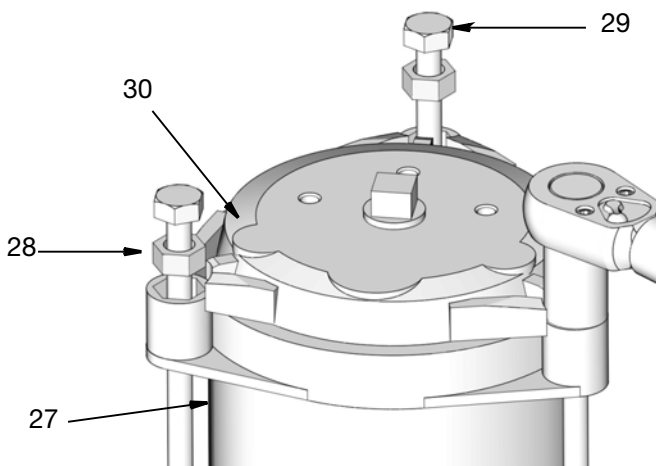

FIG. 13
9. Cover (30) is spring loaded. Use your hand to apply pressure on the cover. At the same time, use a wrench to loosen and remove tie rods (29).
Loosen the rods in a diagonal pattern, taking care to loosen each rod gradually until all rods are completely loosened. Remove tie rods (29) and spacers (28). See FIG. 13.
10. Remove cover (30) and spring (25) from reservoir (27) (FIG. 13).